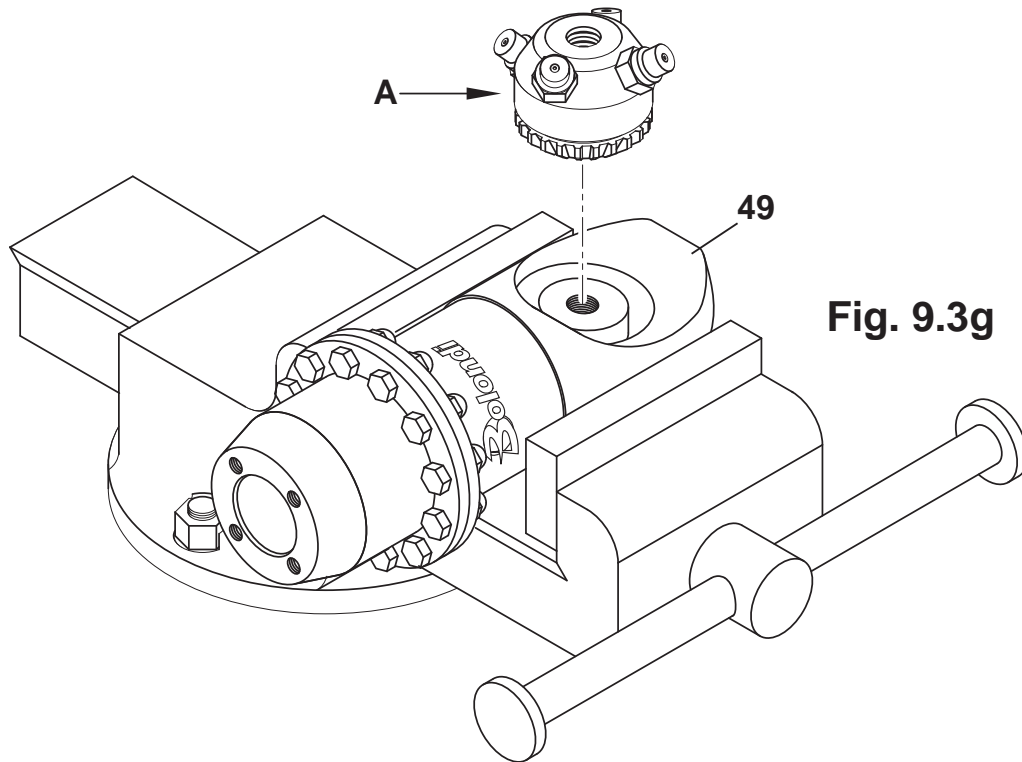

**Fig. 9.3f**
9.3.13) Fit the pin pos.21 and the washer pos.14 on the nozzle holder crown pos.26 (fig.9.3f) (make a screwing motion to make it easier to pass the threaded part over the seals).